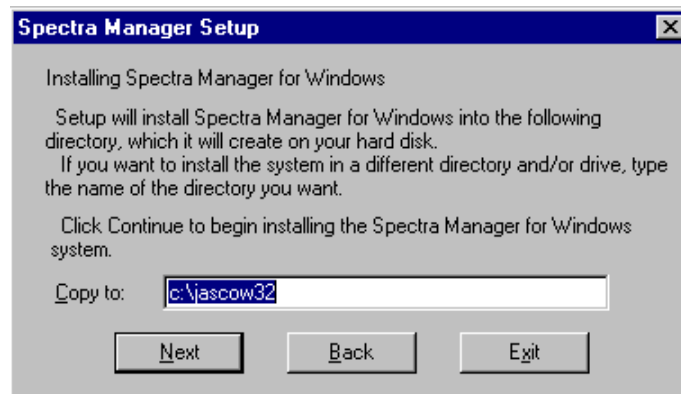

Figure 10.8 Target program directory setting for [Spectra Manager]
- (2) Click the <Next> button. The dialog box shown in Fig. 10.8 appears.